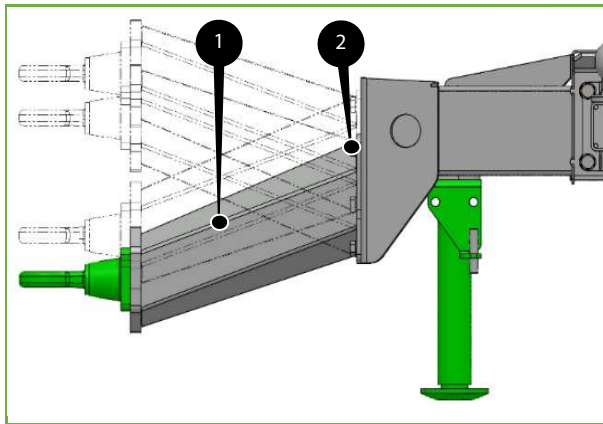

Figure 7-1: Adjustment of the drawbar
5. Proceed as follows. Please refer to *Figure 7-1*.